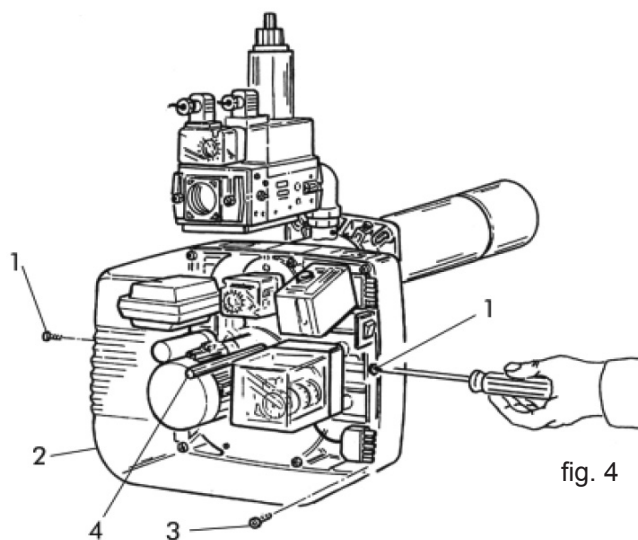

fig. 4
To gain access to the main components, remove the cover (fig.4). Combustion head maintenance should be made as follows:
- Unscrew the screws 1 and remove the cover 2 (fig.4).
- Unscrew the screws 3 and the central pin 4 (fig.4).